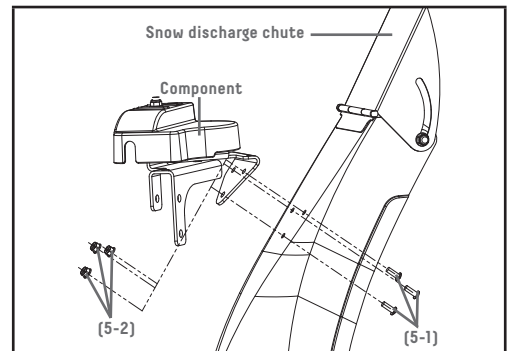

Figure 9A
1. Remove the bolts (5-1) (Fig. 9A) and nuts (5-2) (Fig. 9A) on the snow discharge chute (Fig. 9A). Hold for later step.
2. Tighten snow discharge chute and the component shown in Fig. 9A using three bolts (5-1) (Fig. 9A) and three nuts (5-2) (Fig. 9A).